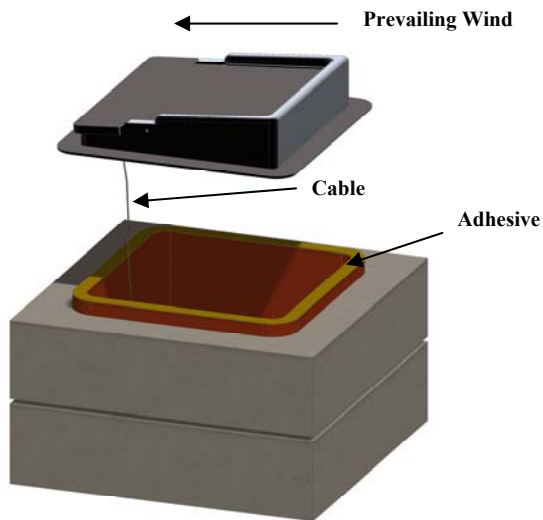

Figure 27. Install Top-Mount Damper
A. If installing a damper with this model Stone Age fireplace, use a top-mount damper, and follow the instructions included with the damper. Properly orient the taller side of the damper with the prevailing winds in your area. See Figure 27.